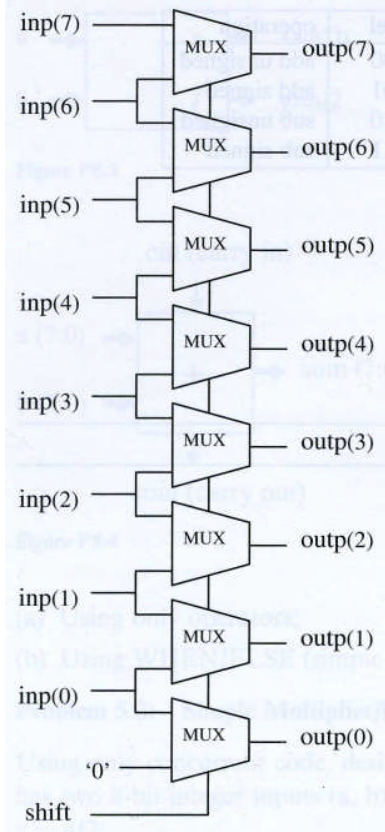

Figure 2. A block diagram of a simple Barrel Shifter (from Pedroni, *Circuit Design with VHDL*, 2nd ed.)
4. Implement a simple Barrel Shifter using a GENERATE statement. The block diagram for a simple Barrel Shifter is shown in Figure 2. The circuit must shift the input vector (8 bits) either 0 or 1 position to the left based on a controller signal, shift. When shifted by 1 position (shift = '1'), the LSb must be filled with '0' (shown in Figure 2). If shift = 0, then $outp = inp$ (shifted by 0 position).